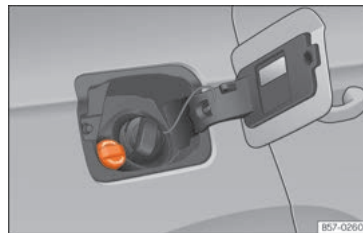

Fig. 308 AdBlue tank cap.
- Open the tank cover »» Fig. 308.
- Turn the bottle in a counter-clockwise direction and gently pull it upwards »» ❶.
- Turn the SCR tank cap anti-clockwise »» Fig. 308.